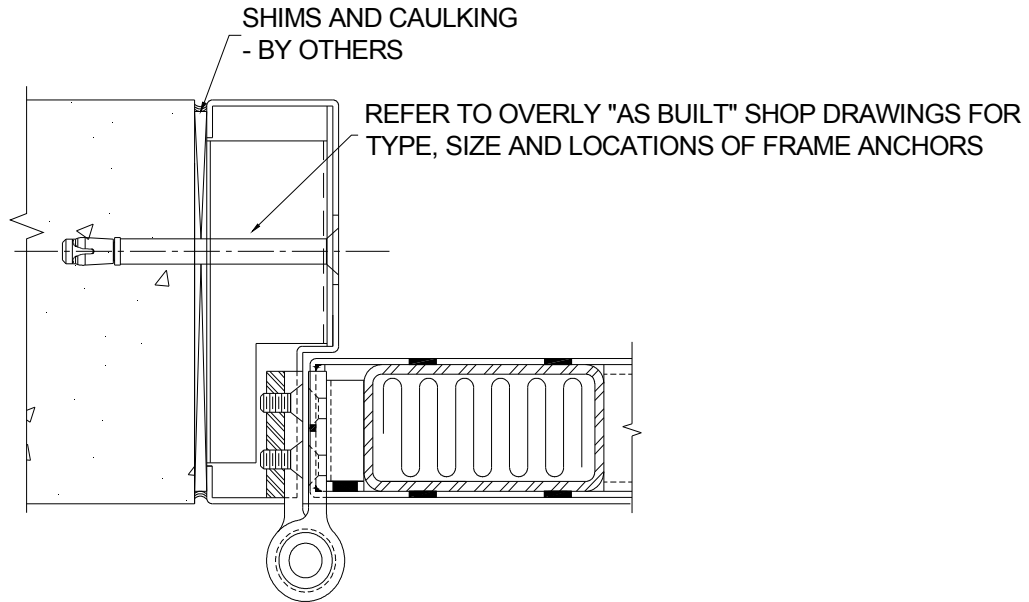

FIGURE 4 – TYPICAL FRAME SECTION @ HINGE SIDE
14. Use the door frame as a template, drill thru the frame into the wall for the concrete anchors supplied. Refer to the Overly "As Built" shop drawings for size and location of anchors. See Figure 4 and 5.